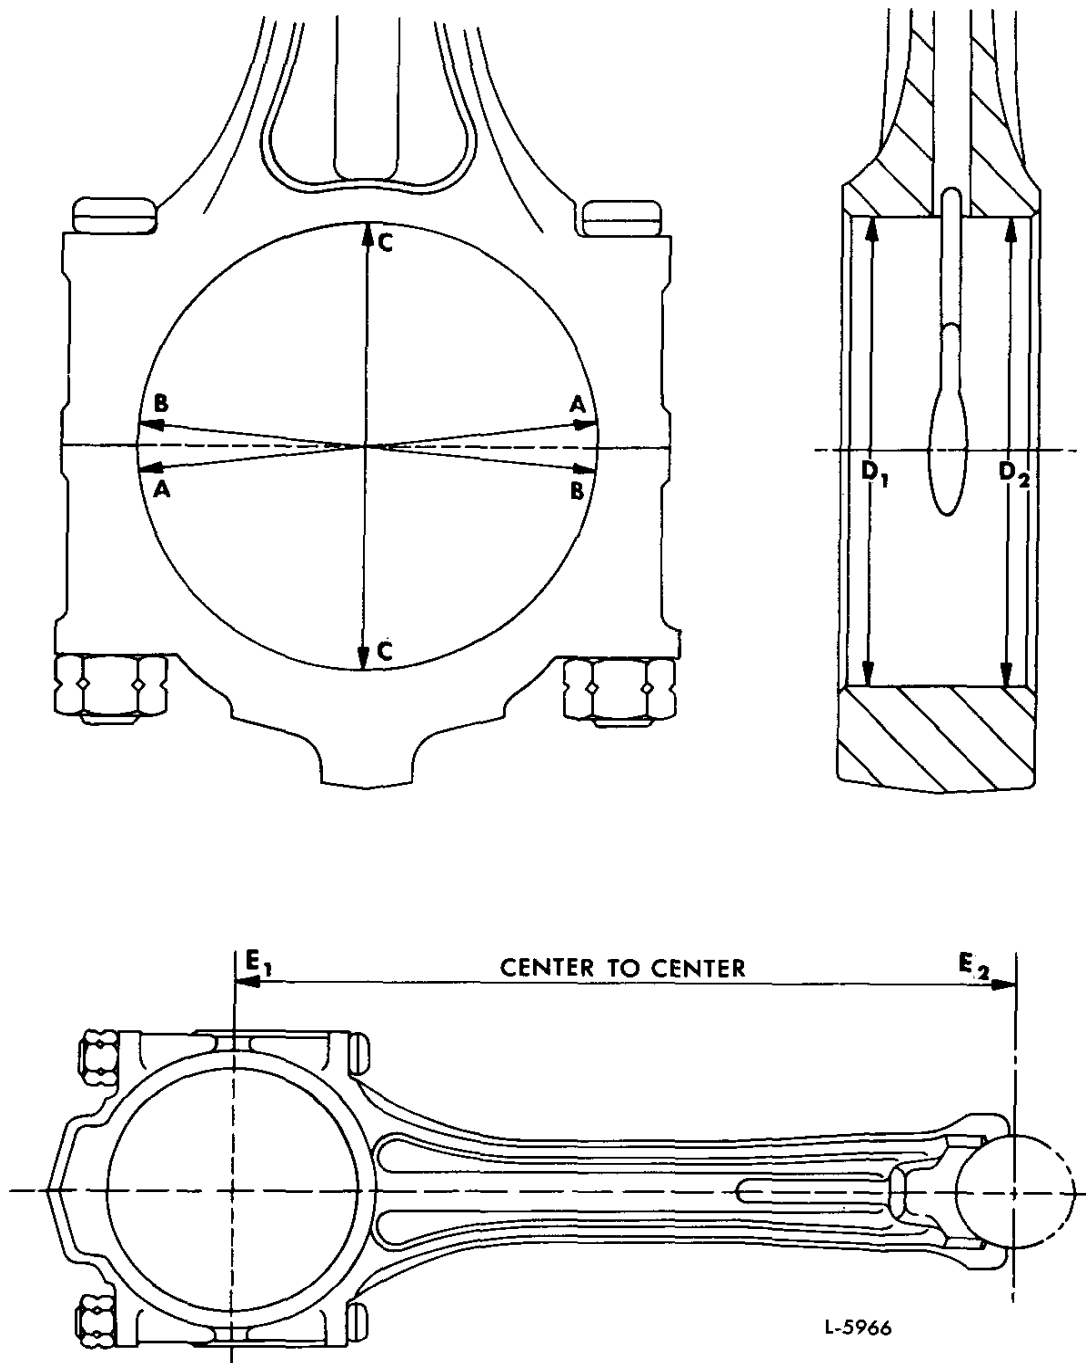

Fig. 12 - Dimensional Inspection of Cross-Head Piston Connecting Rods
- b. Measure diameter A and B (Fig. 12).
3. Determine taper as follows (Fig. 12):
4. Determine length by finding the distance between E1 and E2 (Fig. 12).